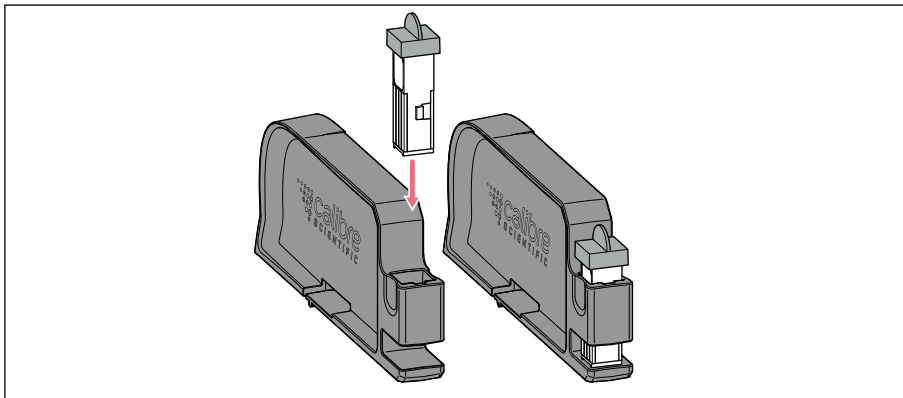

Fig. 5-3: Insert the electroporation cuvette
6. Insert the electroporation cuvette into the cuvette holder with the plastic nose pointing towards the back. (Fig. 5-3 on p. 16)